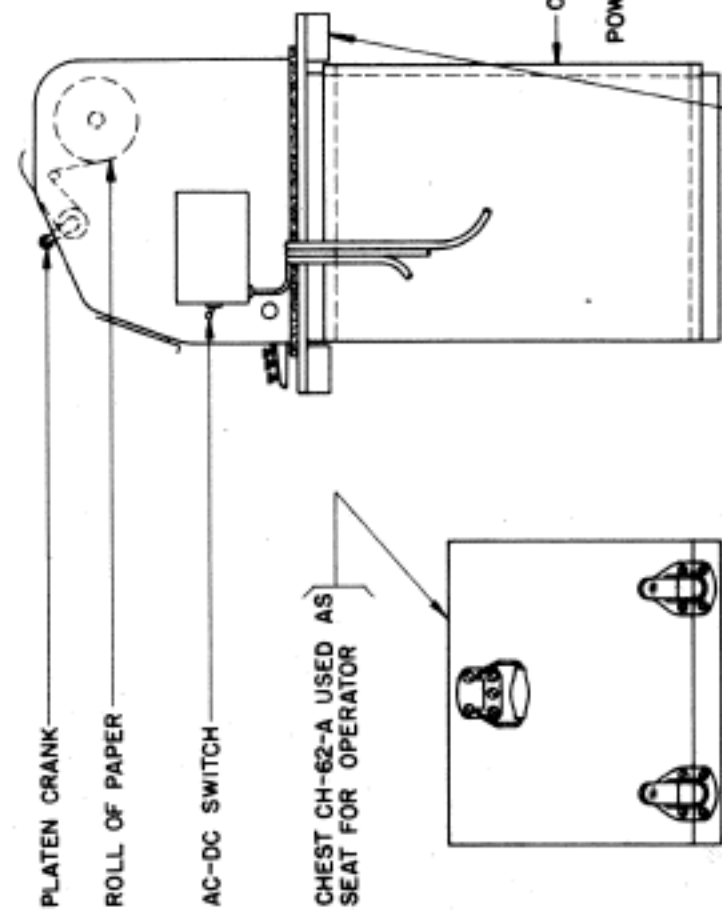

FIGURE 1.
7. PLACE CHEST CH-62-A COVER ON CHEST CH-62-A BASE. POSITION CHEST AS SHOWN IN FIGURE 1.